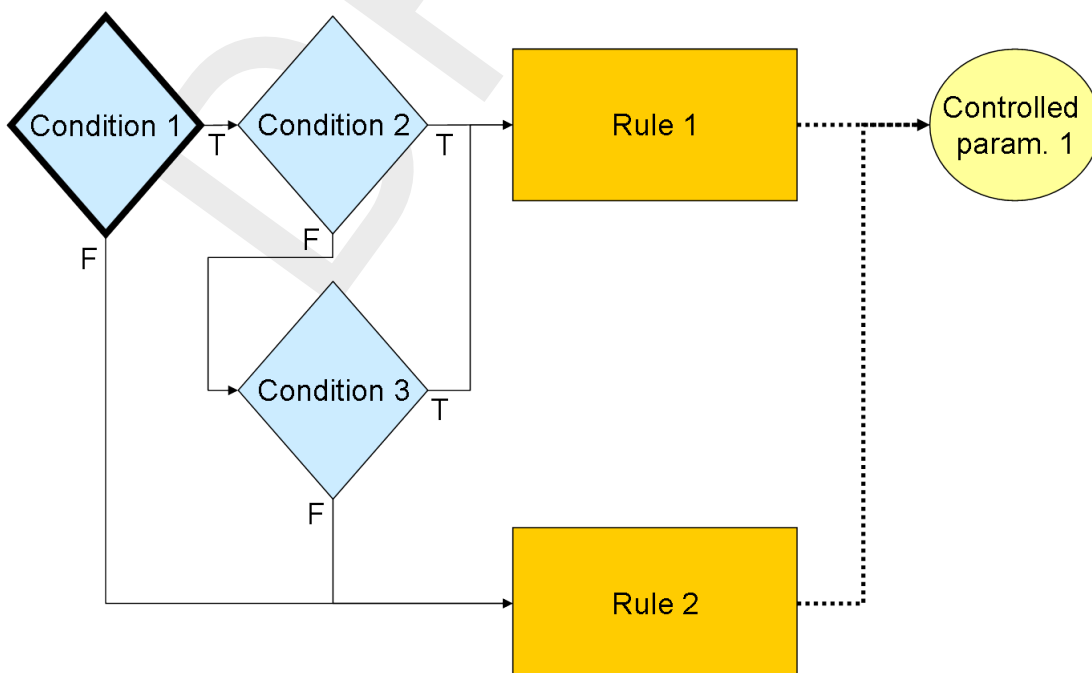

Figure 2.10: Example of three conditions: 1 AND (2 OR 3)
By adding conditions the controlflow may be expanded to more complex situations. Figures 2.10 and 2.11 show some possibilities by using three conditions in a single controlflow. All possibilities for combinations of three conditions are:
- ◇ 1 AND (2 OR 3) (Figure 2.10)